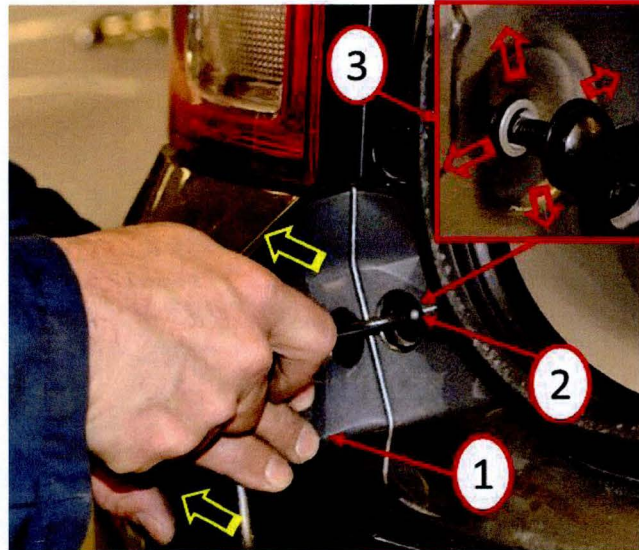

Fig. 5 Rear Fascia Installation And Adjustment
4. Loosely install the rear fascia onto the vehicle and finger tighten the rear fascia bolts (2) (Fig. 5).
5. While pulling the fascia outward (1) to bring it flush with the quarter panel, hand tighten the rear fascia bolt (2) on each side of the vehicle (Fig. 5).
NOTE: If either side of the fascia is slightly under or over flush to the quarter panel once the rear fascia bolts are hand tightened it may be necessary to remove the fascia from that side in order to finesse (lightly tap) the bolt in the desired direction (3) to bring the fascia flush to the quarter panel once the bolts are tightened (Fig. 5).